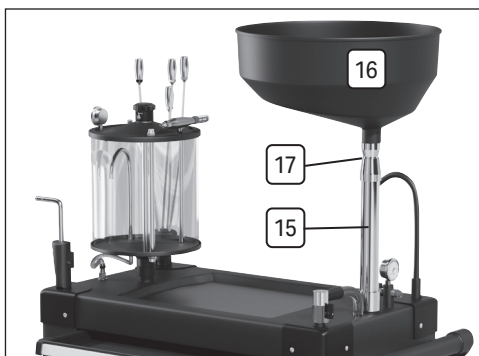

Fig.2
6.3 Fitting the Adjustable Drainage Tube & Pan (Fig.2)